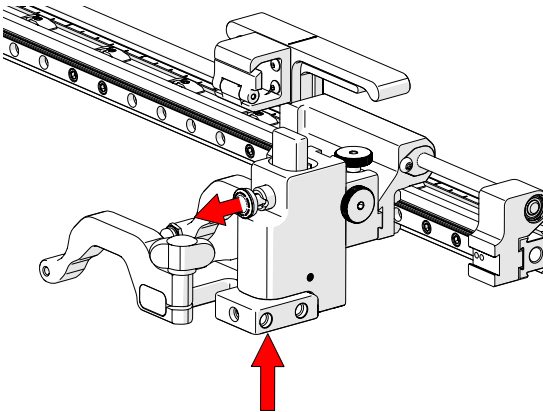
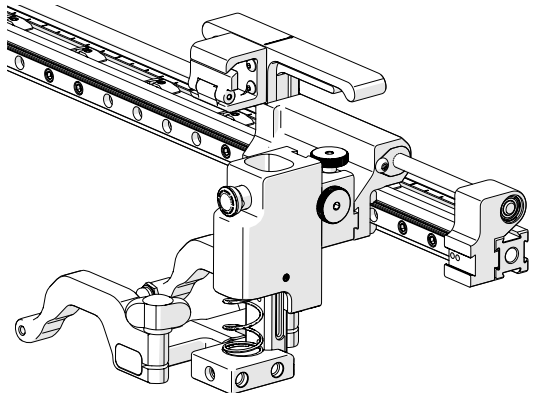

Fig. 53 - Press up and pull latch
Fig. 54 - Lowered toward scan surface
- Gently lift the heavy duty vertical probe holder and simultaneously pull the latch (Fig. 53). This action will unlock the probe holder. Slowly lower the probe holder towards the scan surface (Fig. 54).